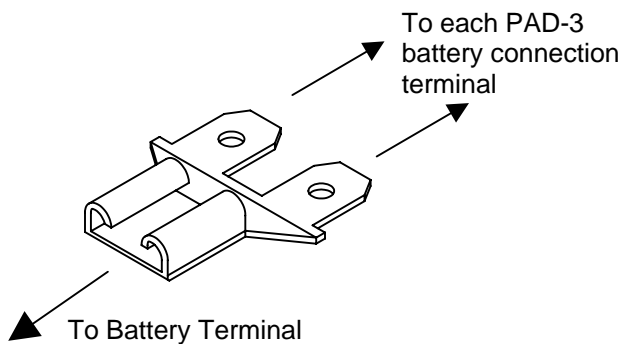

Figure 2-6. Battery connection splitter
1. Install a battery connection splitter (see Figure 2-6) to the positive and negative terminals on the battery set. If the battery set contains two 12-volt batteries to be wired in series, install one splitter on the positive terminal of battery #1 and the other to the negative terminal of the battery #2.